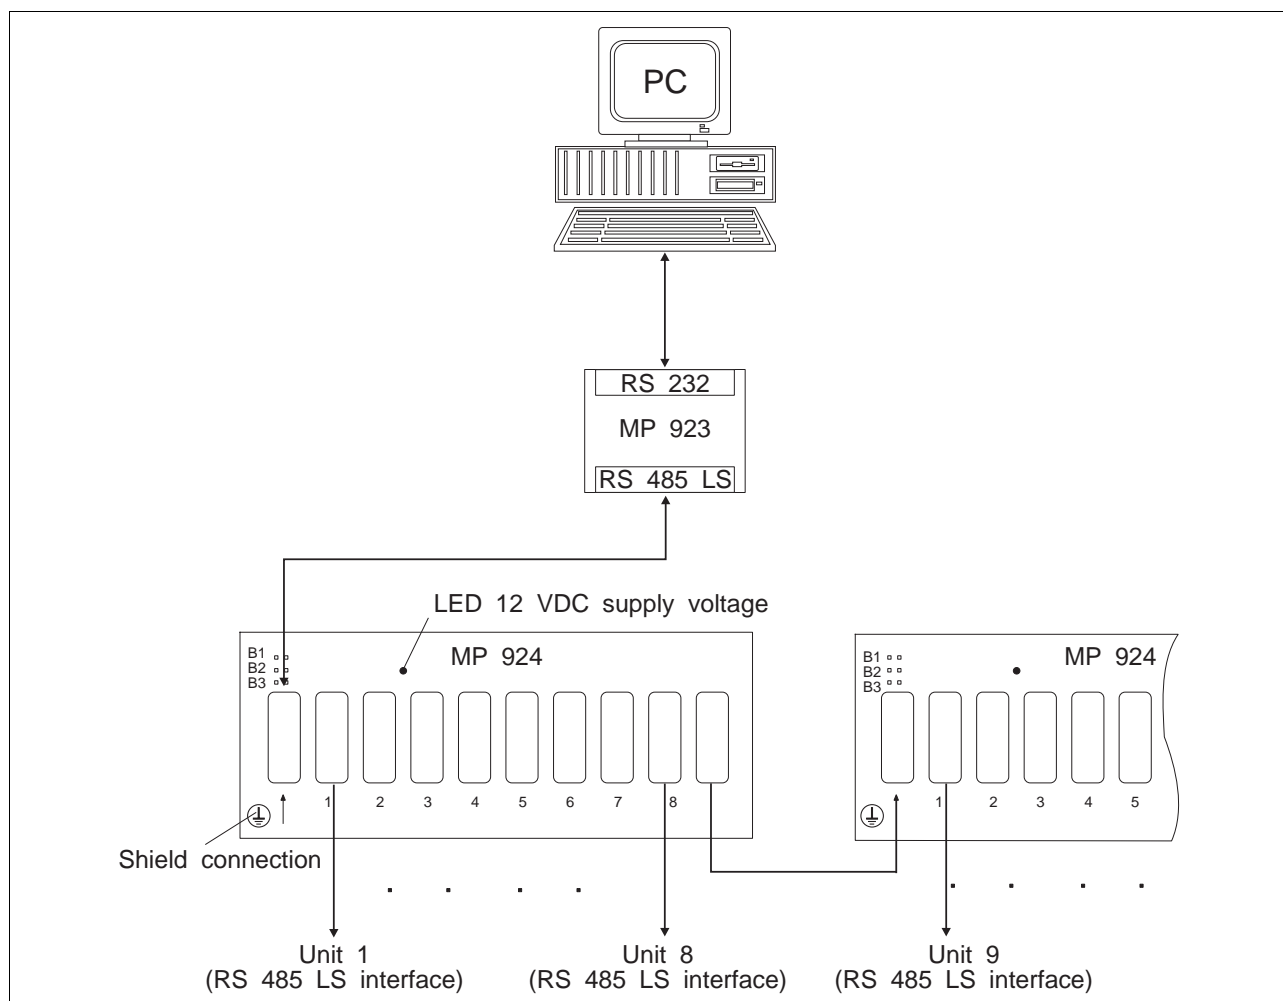

Fig. 6-7 MP 924 interface distributor cabling
1. Wire the MP 924 interface distributor in accordance with fig. 6-7.
2. If several MP 924 interface distributors are used, combine them as illustrated in fig. 6-7.